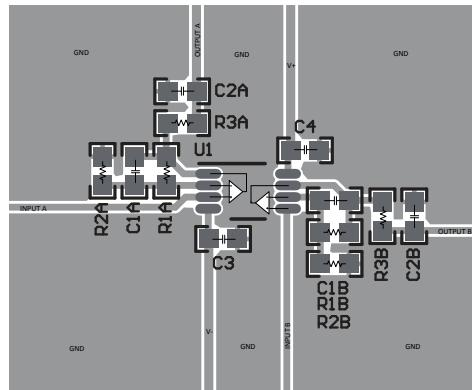

図 7-4. Example Layout for VSSOP-8 (DGK) Package
- Place the external components as close to the device as possible. As illustrated in 图 7-4, keeping RF and RG close to the inverting input minimizes parasitic capacitance.